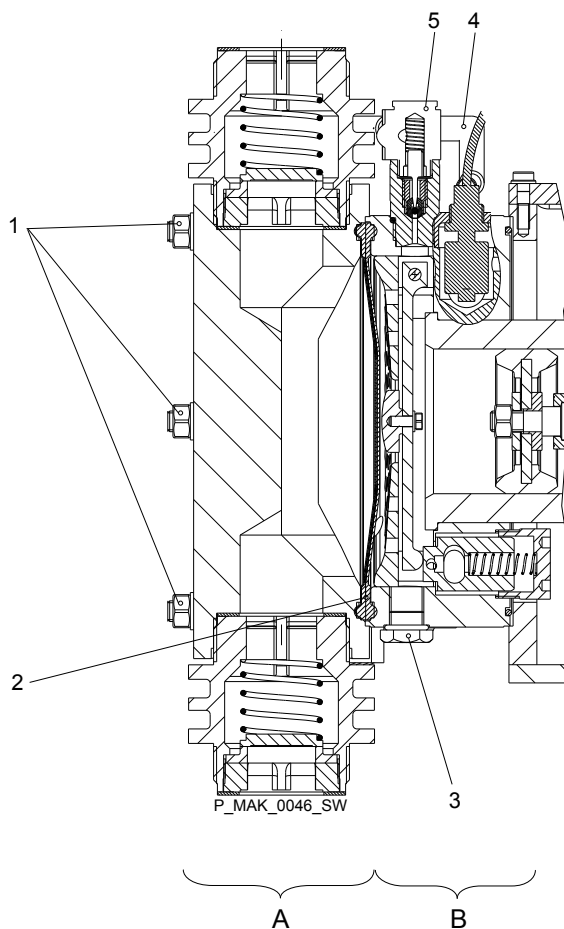

Fig. 20: Cross-section through the liquid end and hydraulic end
6. ➤ Only drain the hydraulic oil from the hydraulic end via the clear acrylic plug (3) - see Fig. 20.